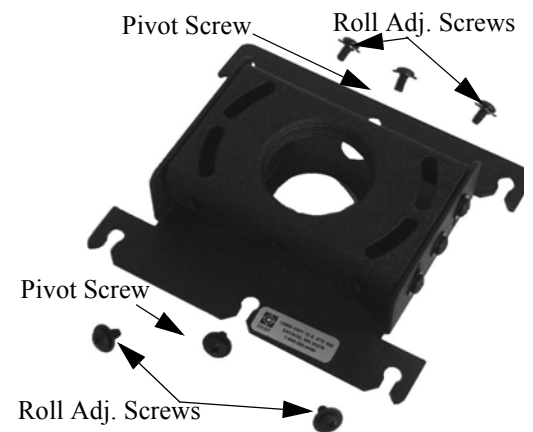
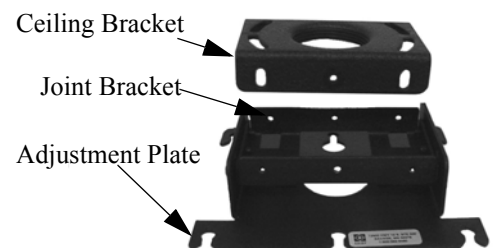

Figure 7. RPA Screws
Figure 8. RPA Disassembly
- a. Remove four #10-24 X 3/8" long pan head roll adjustment screws (see Figure 7).
- c. Remove the Ceiling bracket from the joint bracket (see Figure 8).
3. Secure the ceiling bracket to the joint bracket (see Figure 8) using four #10-24 X 3/8" long pan head roll adjustment screws and two #10-24 X 3/8" long pivot screws (see Figure 7).
4. Using four studs on mount and four thumb screws, secure the RPA to the mount (see Figure 7).